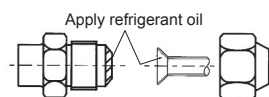

Fig. 7-3
- (3) Apply refrigerant oil on the flared seat. (Fig. 7-3)